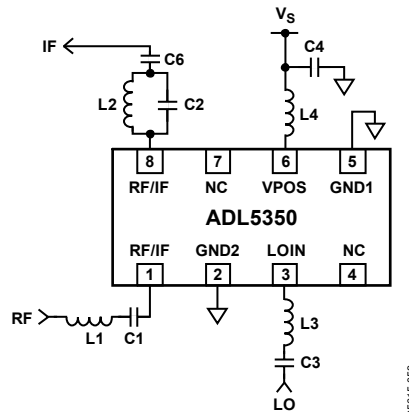

Figure 58. Reference Schematic
The ADL5350 is a simple single-ended mixer that relies on off-chip circuitry to achieve effective RF dynamic performance. The following steps should be followed to achieve optimum performance (see Figure 58 for component designations):
2. Tune the LO port input network for optimum return loss. Typically, a band-pass network is used to pass the LO signal to the LOIN pin. It is recommended to block high frequency harmonics of the LO from the mixer core. LO harmonics cause higher RF frequency images to be downconverted to the desired IF frequency and result in sensitivity degradation. If the intended LO source has poor harmonic distortion and spectral purity, it may be necessary to employ a higher order band-pass filter network. Figure 58 illustrates a simple LC band-pass filter used to pass the fundamental frequency of the LO source. Capacitor C3 is a simple dc block, while the Series Inductor L3, along with the gate-to-source capacitance of the buffer amplifier, form a low-pass network. The native gate input of the LO buffer (FET) alone presents a rather high input impedance. The gate bias is generated internally using feedback that can result in a positive return loss at the intended LO frequency.
3. Design the RF and IF filter networks. Figure 58 depicts simple LC tank filter networks for the IF and RF port interfaces. The RF port LC network is designed to pass the RF input signal. The series LC tank has a resonant frequency at  $1/(2\pi\sqrt{LC})$ . At resonance, the series reactances are canceled, which presents a series short to the RF signal. A parallel LC tank is used on the IF port to reject the RF and LO signals. At resonance, the parallel LC tank presents an open circuit.